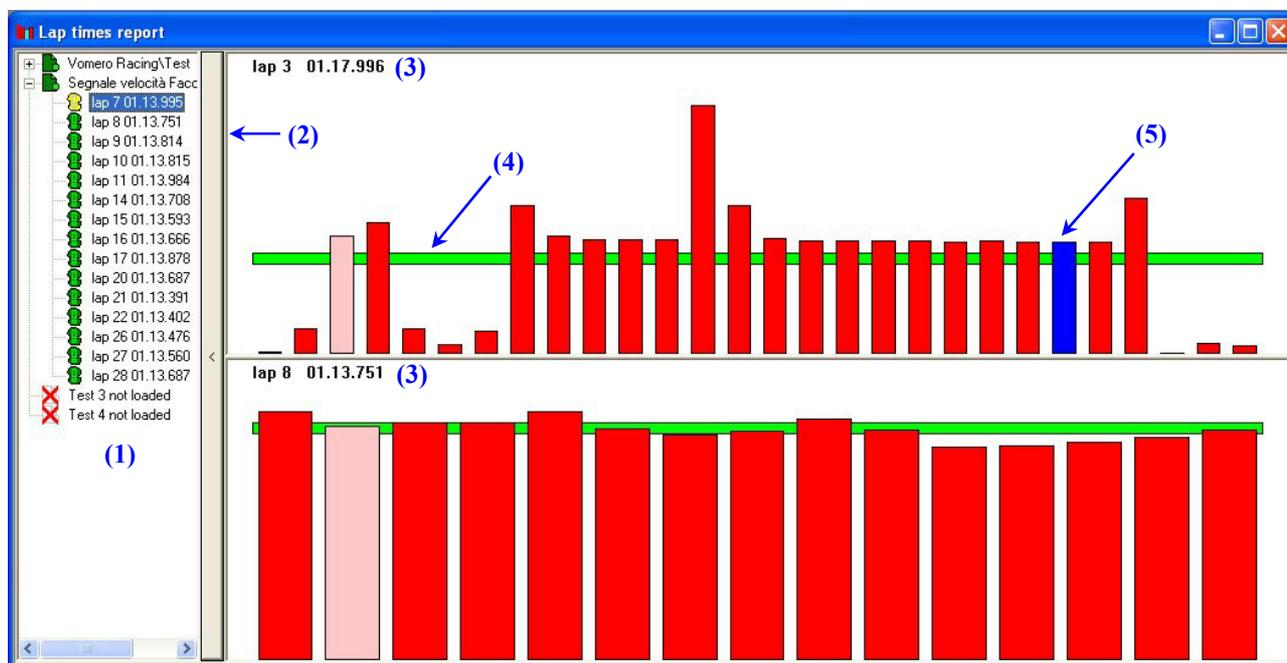

Fig. 6.2– Lap times analysis: 2 tiled graphs
An example of a Lap Times analysis graph is shown in Figure 6.2 and described below.
The Lap Times report window is divided into two separate parts: on the left (1) it is shown the loaded tests and the tests’ laps, while, on the right, it is shown a histogram graph reporting the lap times. When more than one test has been loaded, the histograms are displayed on a tiled graph, as reported in Figure 6.2 (2 tests loaded).